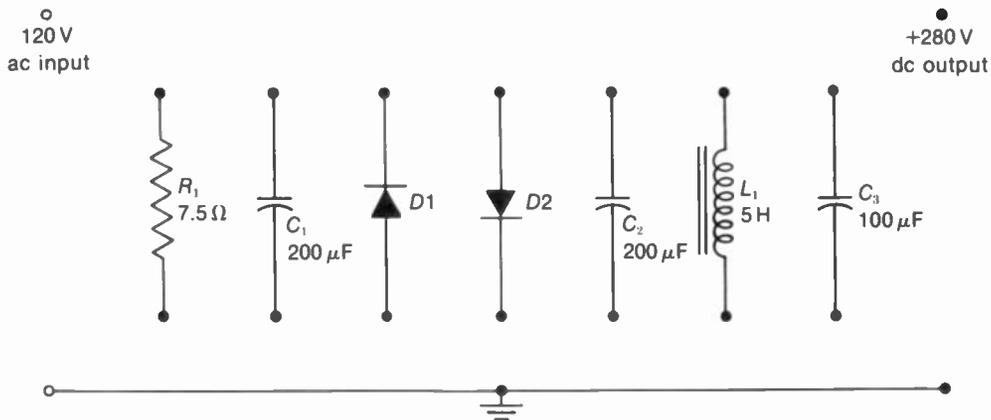

FIGURE 12-38 FOR PROBLEM 5.
5. Show how to connect the components in Fig. 12-38 in a cascade voltage doubler circuit.